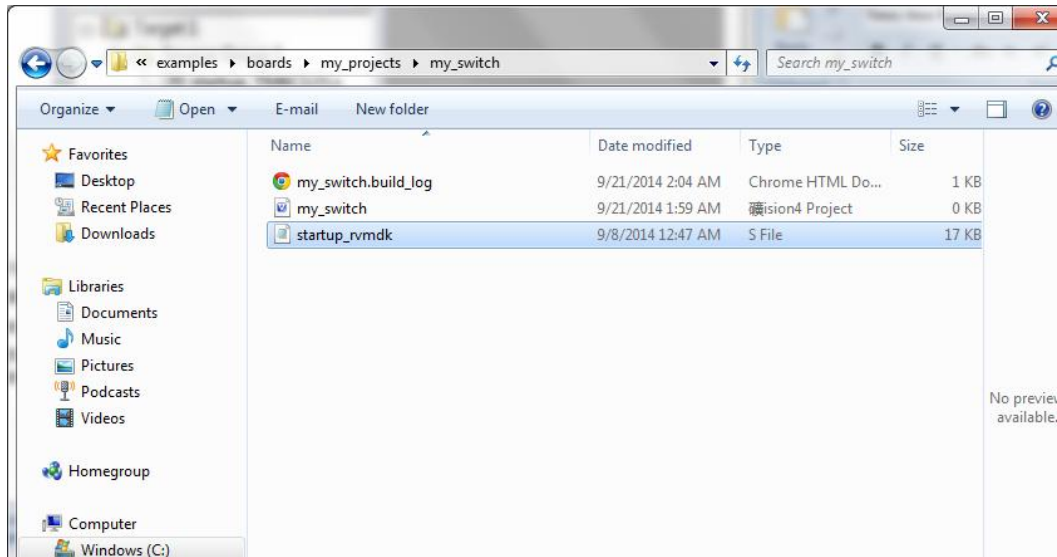

Figure 18
5. Now we will add the startup code to the project. Go to the directory where stores the sample project *switch* and copy the startup file **startup\_rvmdk.s** and paste it in the *my\_switch* directory (see Figure 18).